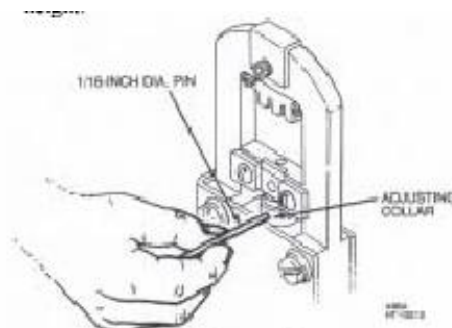

Figure 12
3. Close the hand tool lever one click to gain access to the holes in the side of the adjusting collar. Next, insert a pin approximately 1/16-inch in diameter, into one of the holes in the collar (see Figure 12). Then rotate the collar about 5 degrees counterclockwise to increase crimp height or clockwise to decrease crimp height.